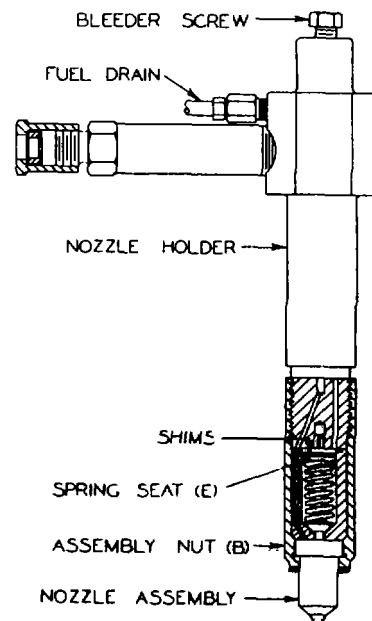

FIG. N-4.
11. NOZZLE HOLDER AND SPRAY TIP (See Fig. N-4)